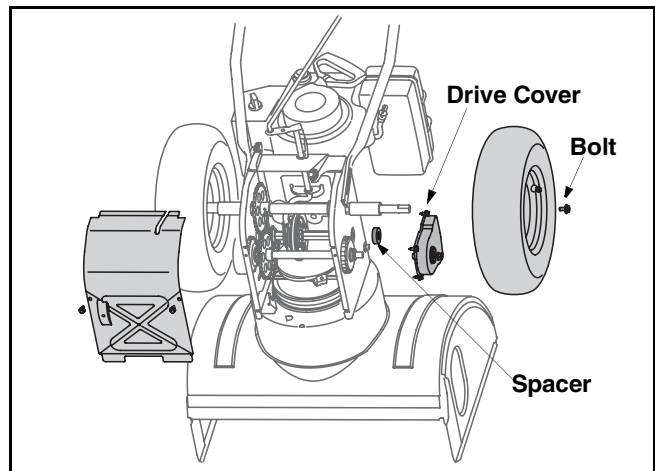

Figure 19
5. Remove the four screws securing the right drive cover to the frame. Remove the drive cover from the side of the frame. See Figure 19.
3. With the drive control engaged, the friction wheel must contact the drive plate (Figure 19).